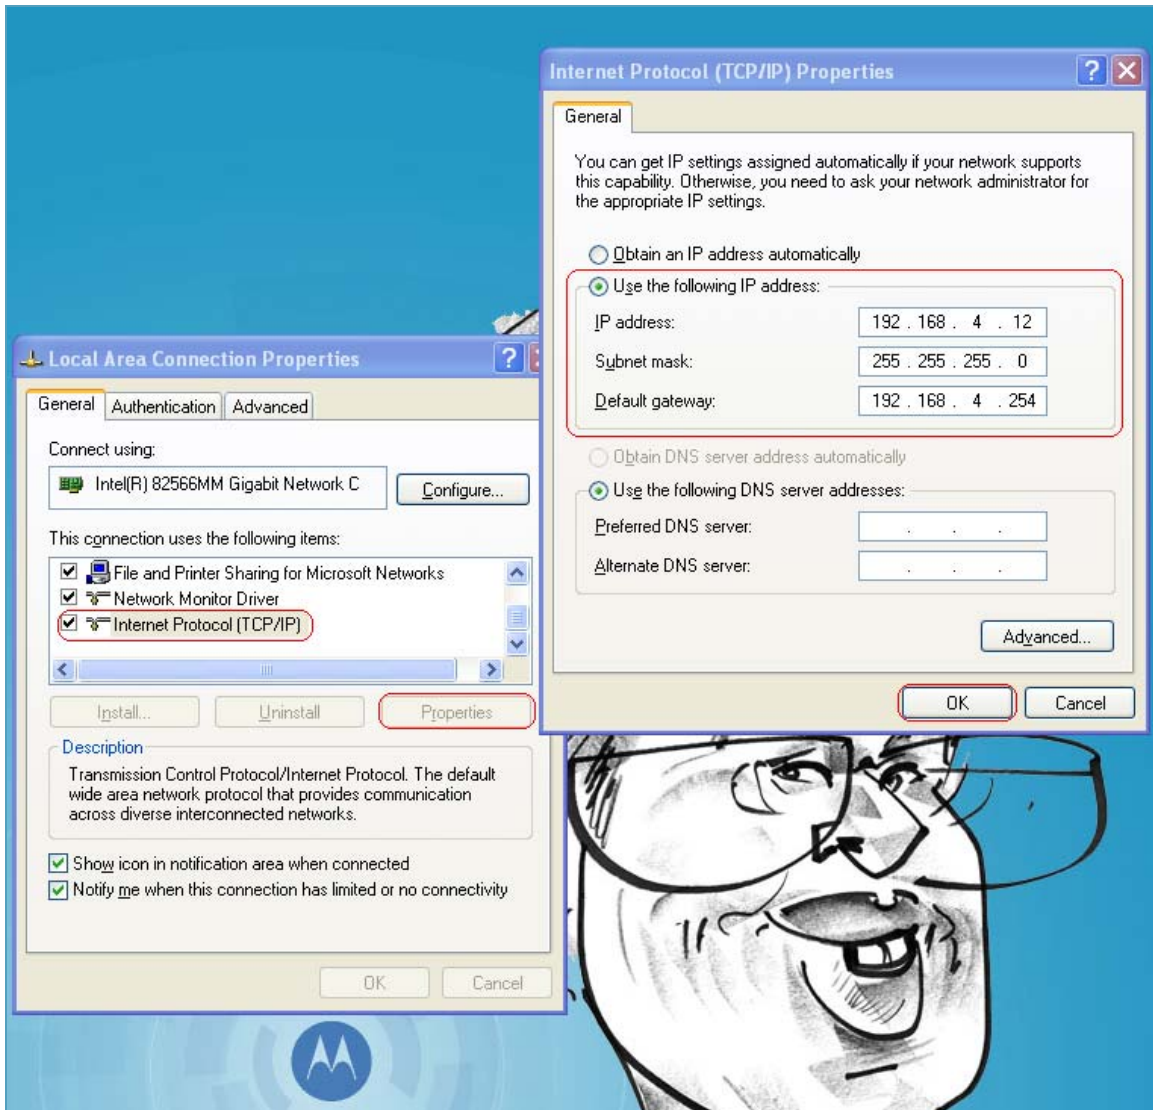

Figure 7.8
- 2) In the resulting Internet Protocol (TCP/IP) Properties window that opens up, select 'Use the following IP address', specify the IP address parameters and click 'OK'. For the example in **Figure 7.8** below, the IP address parameters are configured as follows: